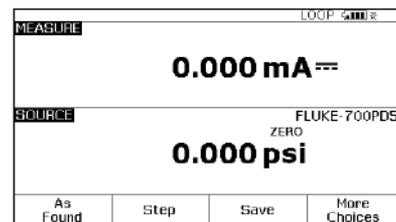

Figure 23.
7. Next depress the "MEAS/SOURCE" button once and you should be in the split screen mode (Figure 23).